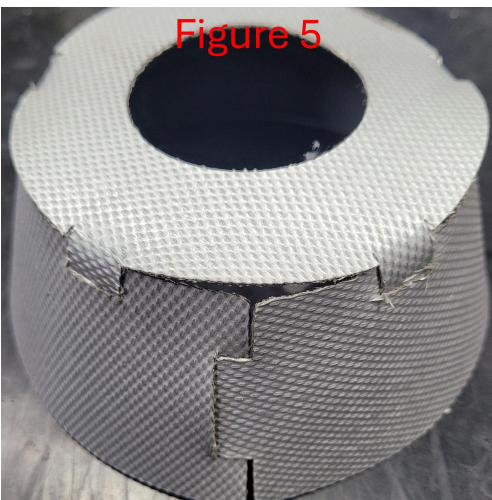
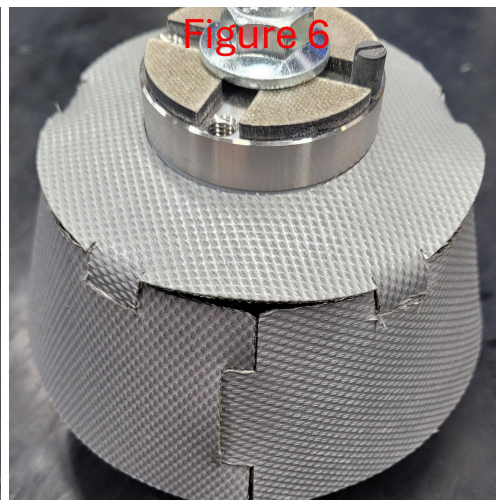

Figure 5
Figure 6
3. The finished silicone heat shield should look like this (Figure 5). Now place the heat shield onto the engine mount pin but be sure not to push it all the way against the engine mount housing. For these heat shields to work properly there needs to be air space between the heat shield and the engine mount (Figure 6).